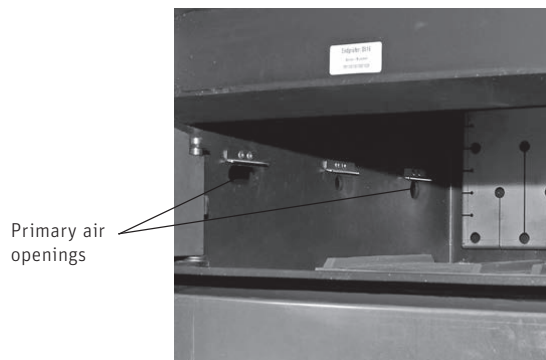

Fig. 40 Removing hook-in plate; checking the primary air openings.
- Remove hook-in plates from both sides of filling chamber and check the primary air openings under them. Clear if necessary – Fig. 40.